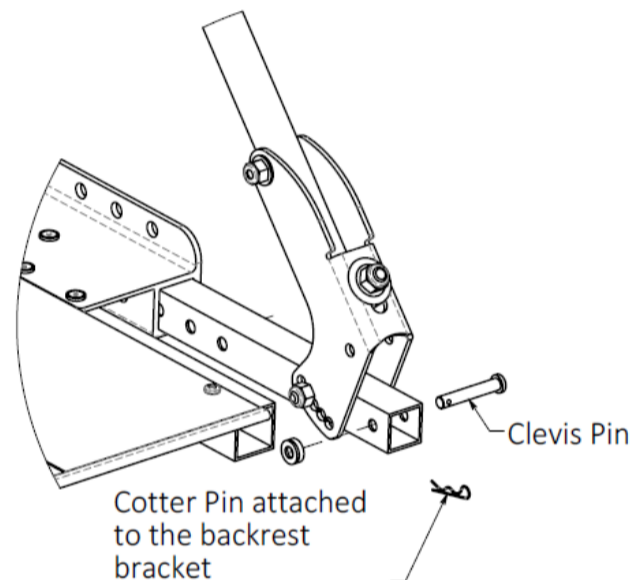

Figure 14.27: Fold-down backrest
2. Disengage the clevis pin by pulling out the cotter pin that is attached to the backrest bracket. (see Figure 14.27)